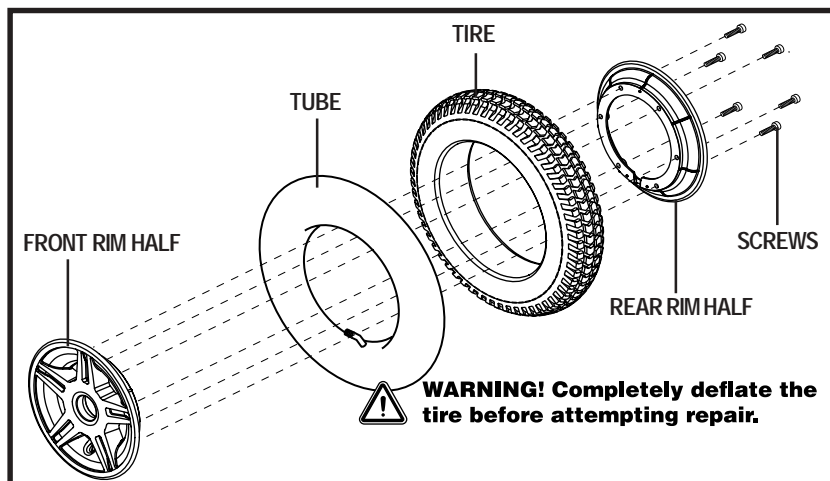

Figure 21. Jazzy 614 Series Drive Wheel Disassembled
6. Remove the screws from the rim assembly and separate the front and rear rim. See figure 21.